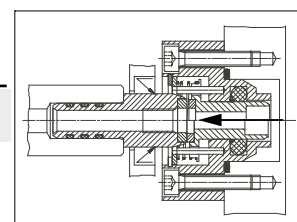

fig. 5: Bearingless Union mounted
- Final positioning of the *DEUBLIN* Bearingless Union: Carefully adjust the Floating Seal as shown in fig. 5. Finally adjust the Floating Seal by using compressed air at min. 6 bar. Short pulsed pressure blasts cause the Floating Seal to abut. Only then coolant may be admitted.